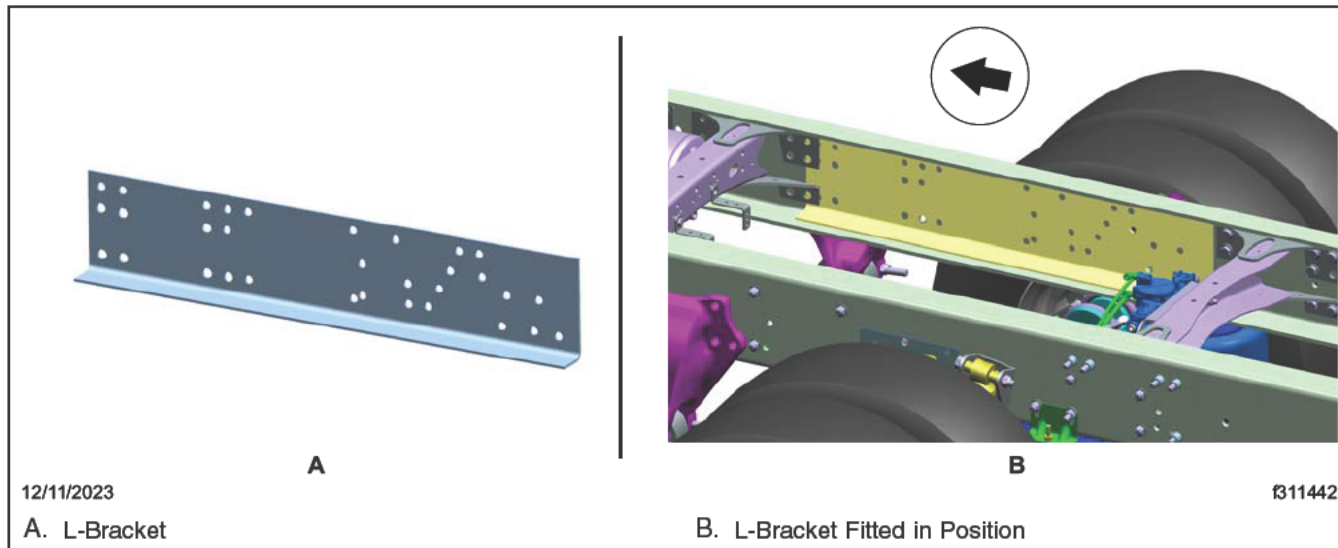

Fig. 15, Installation of the L-Bracket
6. Slide the L-bracket inside the frame rail lining and align with the pre-drilled holes, as shown in Fig. 15.